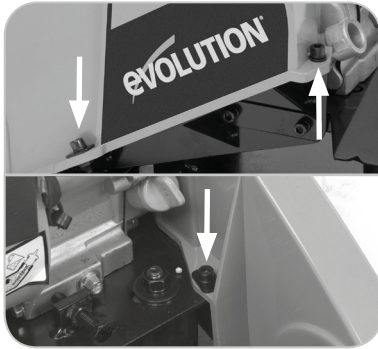

Fig. 18
- Remove the Belt Guard by removing the three (3) socket headed screws (**Fig. 18**) using a hex key and spanner (not supplied) and store safely for future use.